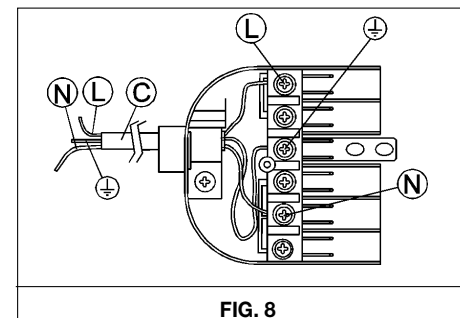

FIG. 8
- If the appliance has no power cable, connect a cable of adequate section to the terminal strip (consult the table on next page) complying with the wiring diagram of fig. 8. This diagram is also affixed to the hot plate.
- Fit a standard plug to power cable (if supplied). This plug should be able to bear the load indicated on the data label. Connect the wires according to the diagram in fig. 8, remembering to comply with the following instructions: